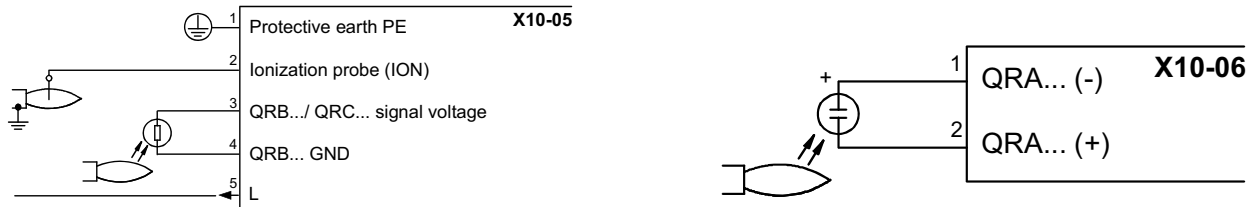

Fig. 18
- Check the detection electrode, clean, adjust and, if necessary, replace it; in case of doubt, check the detection circuit following the diagram in Fig. 18, after turning the burner back into operation.
To check the detection signal follow the scheme in Fig. 18. If the signal is less than the value indicated, check the position of the detection electrode or detector, the electrical contacts and, if necessary, replace the electrode or the detector.